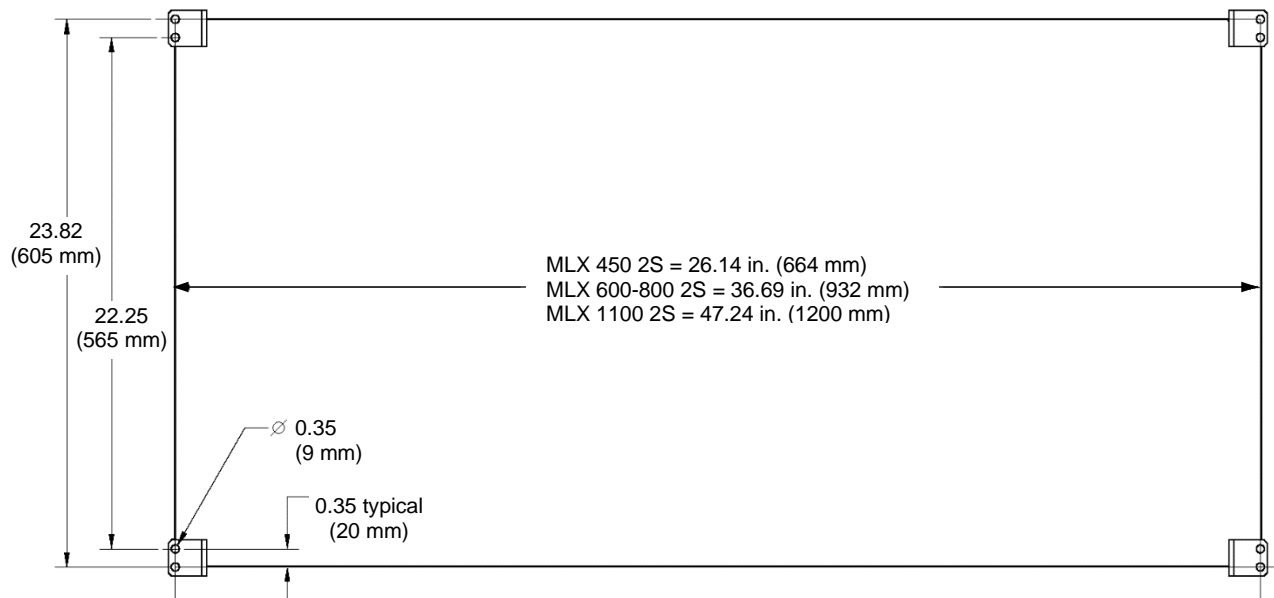

Figure 4-5: Mounting Hole Locations
- 4) Attach four (4) support feet to chassis using four "A" screws removed in Step 3 (Figure 4-5).